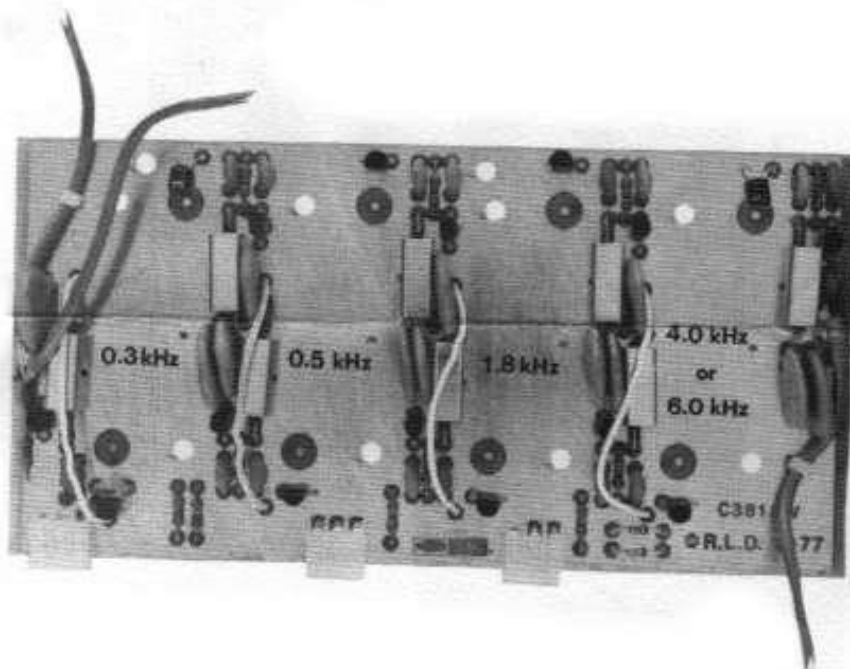

figure 3B – R7 IF Selectivity Board (filter locations)
6. For the R7, refer to figure 3B and install appropriate filters in the positions shown as they correspond with Selectivity board and switch wiring.